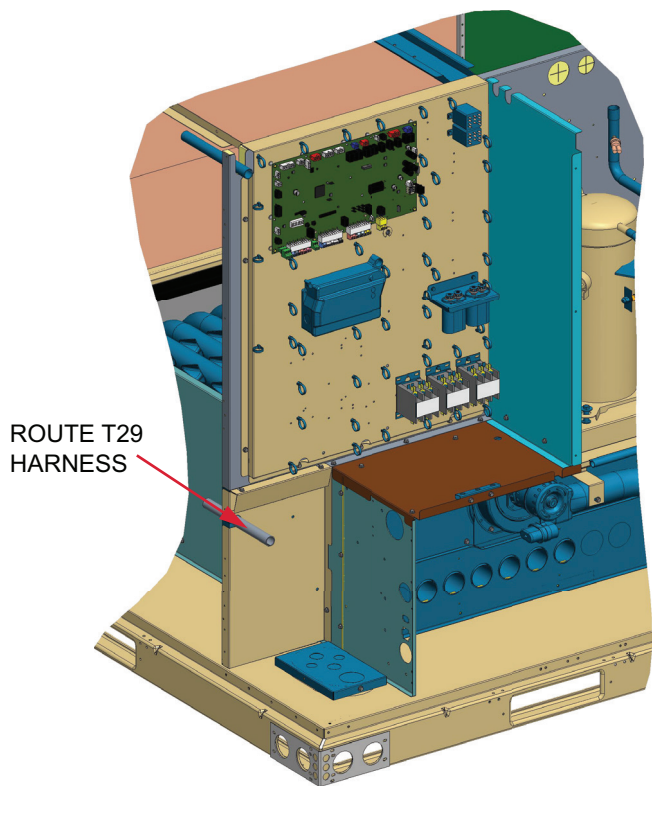

FIGURE 18
- ii. Locate the convoluted tubing where the blower power harness is and feed the harness through it. See FIGURE 18 for S*H 092-120